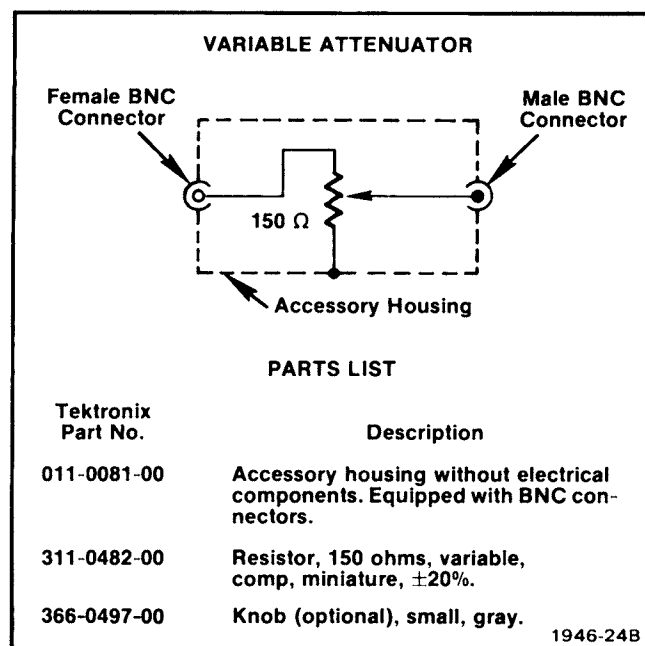

Fig. 6-1. Test fixture for varying the generator output signal amplitude.
12. Variable Attenuator. For varying the generator output signal amplitude when checking the sync stripper circuit operation in steps 36 and 37. Fig. 6-1 shows how to construct this test fixture.